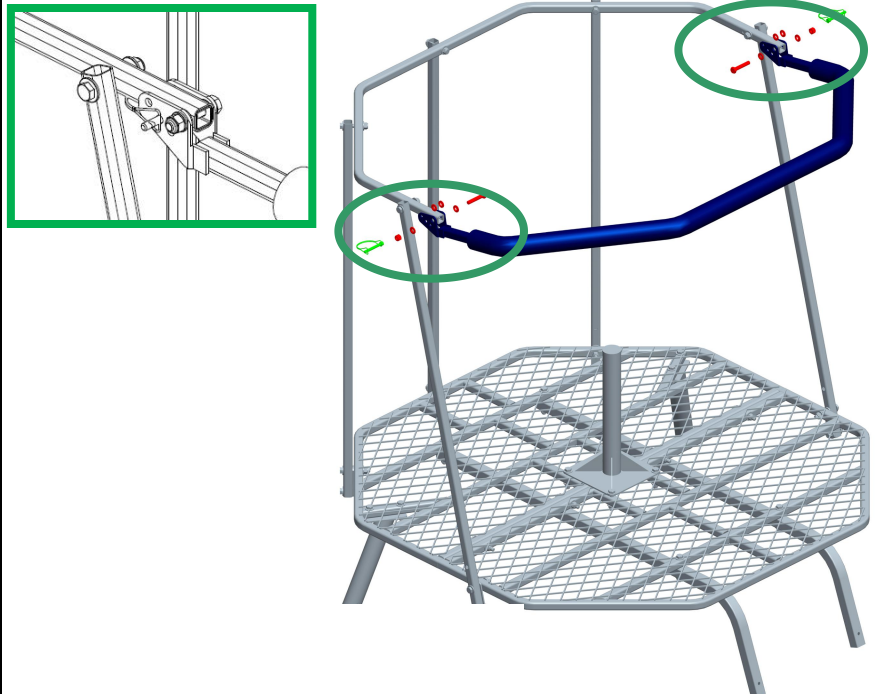

Figure 8
Locate Front Shooting Rail (#9). Install the Front Shooting Rail (#9) onto the Back Rail (#8) using two (2) M8x45 Bolts, eight (8) Shoulder Washers and two (2) Locknuts as shown in Figure 8.